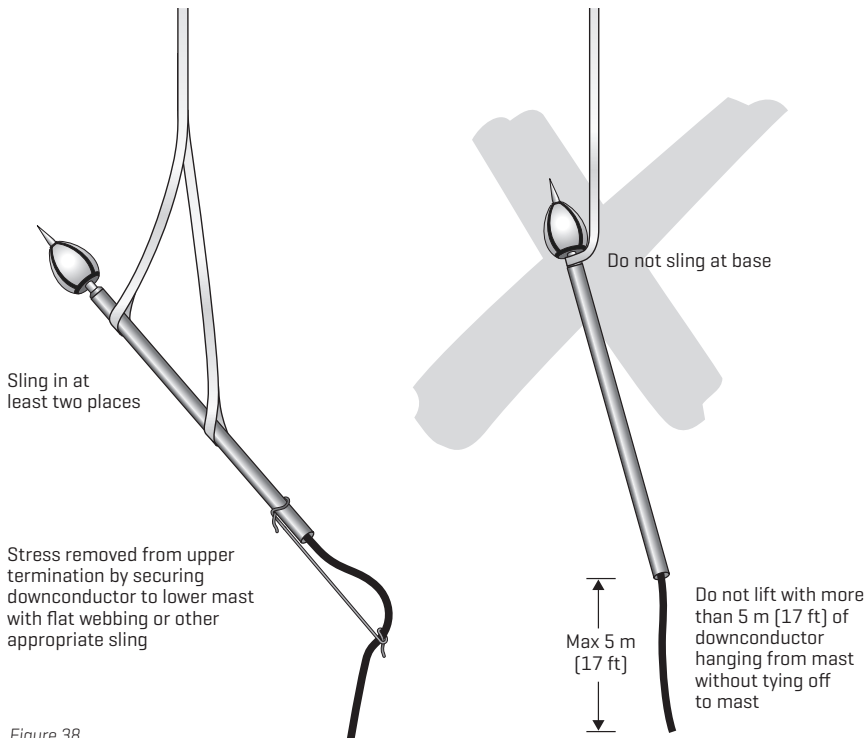

Figure 38.
- When lifting the mast, ensure that the slings or ropes cannot damage the Stormaster ESE terminal. See Figure 38